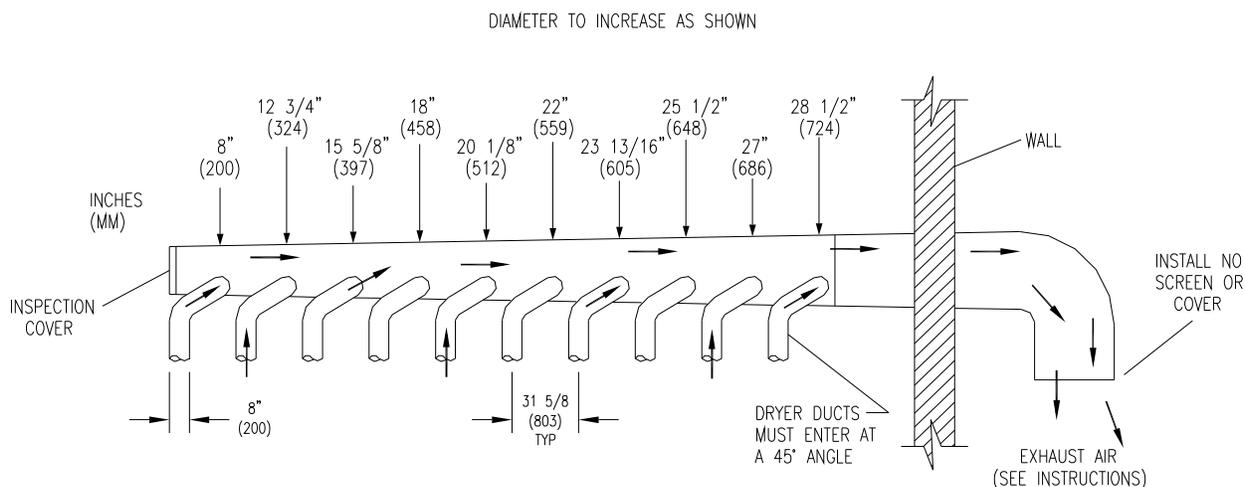

FIGURE 3- Dryer Exhausting Using A Main Discharge Duct.
7. EXHAUST INSTALLATION. (Refer to Figure 3 at the end of section 7.) Exhausting of the dryer(s) should be planned and constructed so that no air restrictions occur. Any restriction due to pipe size or type of installation can cause slow drying time, excessive heat, and lint in the room.
Installation of several dryers, where a main discharge duct is necessary, will need the following considerations for installation (see Figure 3). Individual 8" ducts from the dryers into the main discharge duct should be at a 45-degree angle in the direction of discharge airflow.
NOTE: Never install the individual 8" ducts at a right angle into the main discharge duct. The individual ducts from the dryers can enter at the sides or bottom of the main discharge duct. Figure 3 indicates the various round main duct diameters to use with the individual dryer ducts. The main duct can be rectangular or round, provided adequate airflow is maintained. For each individual dryer, the total exhausting (main discharge duct plus duct outlet from the dryer) should not exceed the equivalent of 14 ft (4.27m) and two elbows. The diameter of the main discharge duct at the last dryer must be maintained to exhaust end.